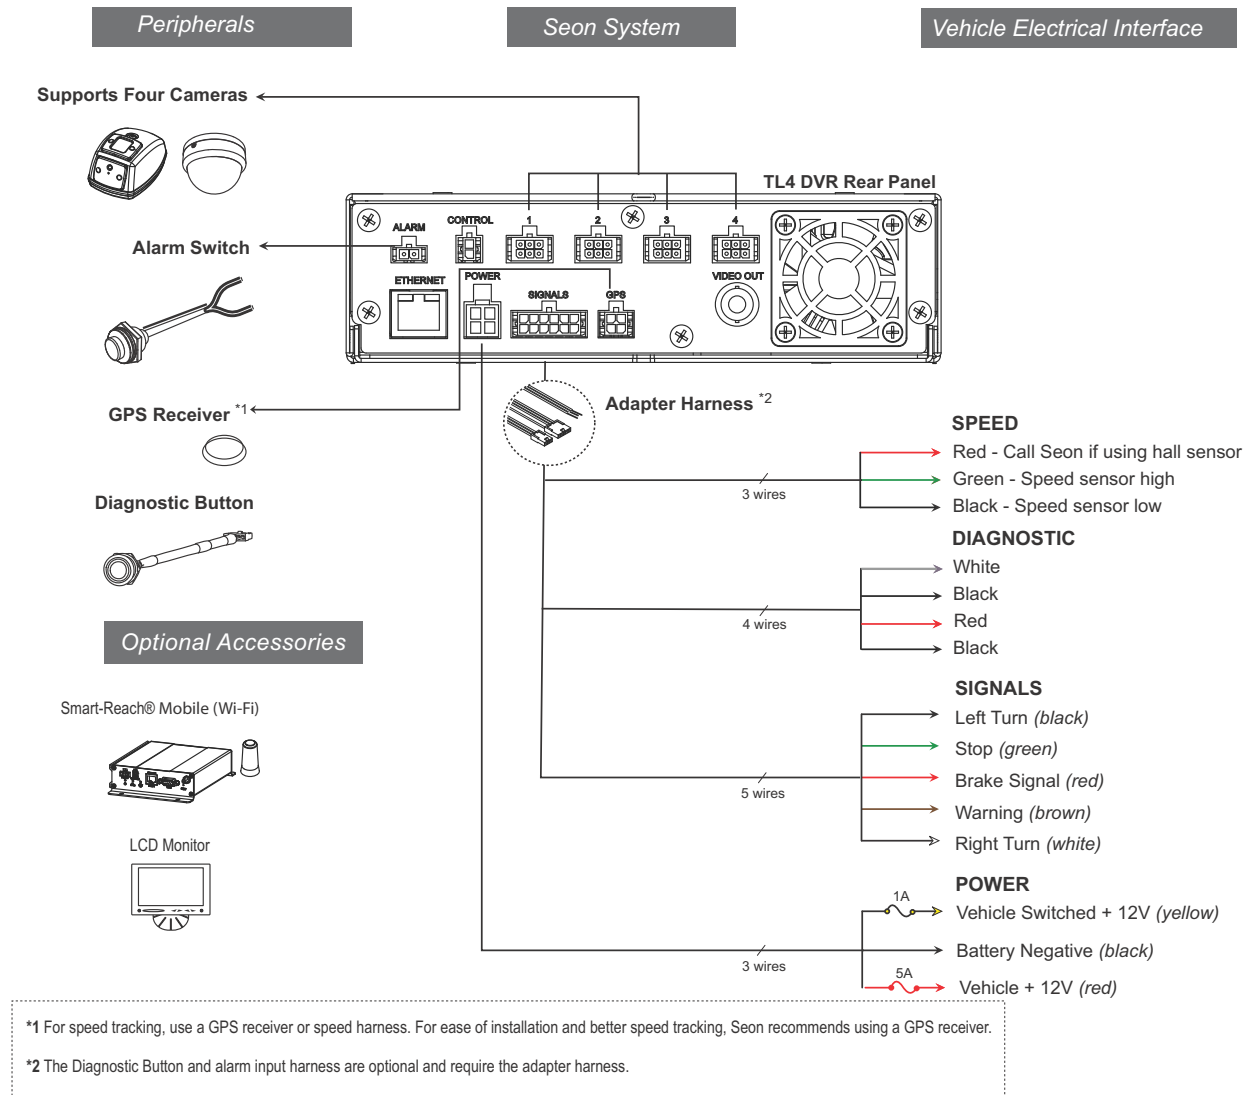

Figure 1 Typical TL4 System
To install the typical TL4 Basic DVR system, see Figure 1.
- 2 Connect the 3-pin speed harness and 6-pin Signals harness to the Adapter harness. Connect the wires as shown in Figure 1, “Typical TL4 System” on page 3.